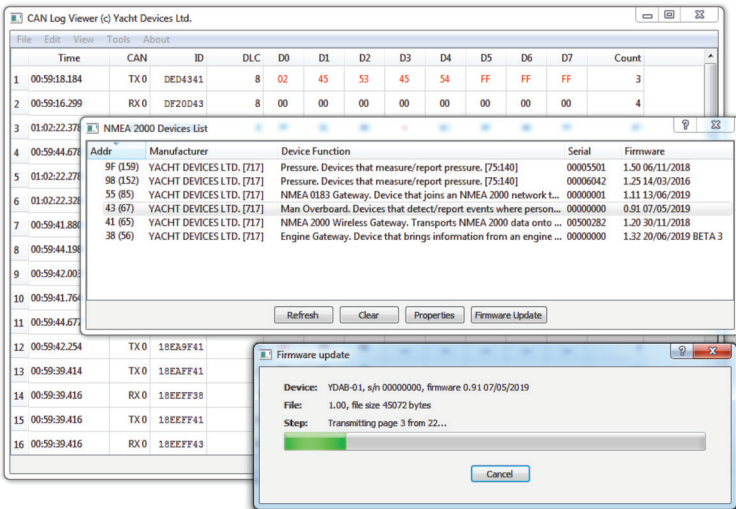

Figure 7. Firmware update of Alarm Button YDAB-01
2. Click «Refresh» button (see Figure 7 at the next page) in opened window and wait for YDAB-01 device to appear in the list. If all Device details are not loaded on the first try, click «Refresh» again.